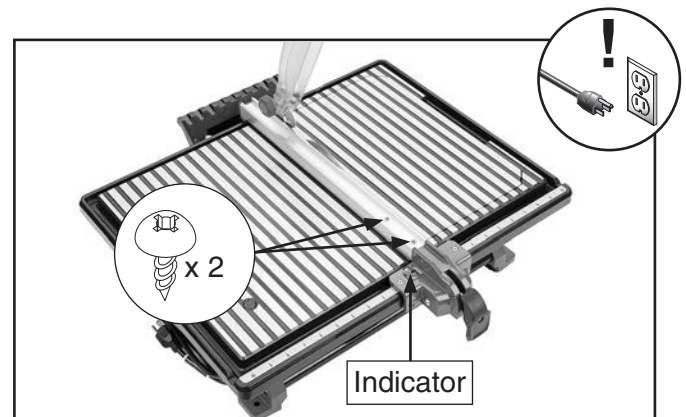

Figure 47. Rip fence adjustment screw locations.
4. Position rip fence so indicator reads 0" (see **Figure 47**) and lock in place.
5. Loosen both screws shown in **Figure 47**.